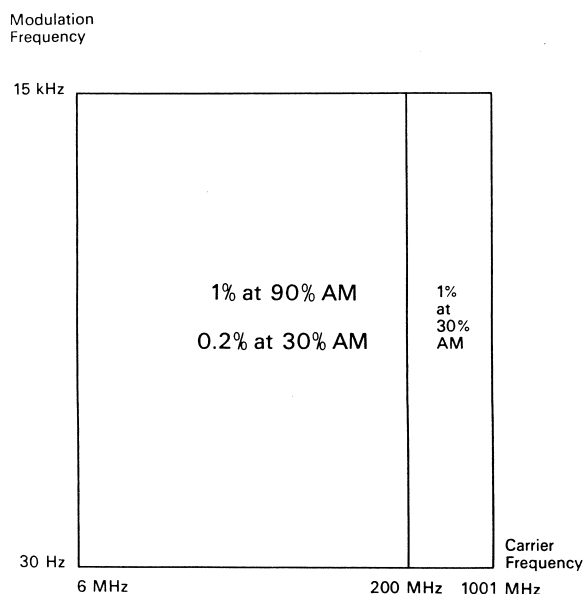

Fig. E2. Distortion for modulation percentage measurements.
14) Read the modulation percentage. Check whether the reading is the same for both peaks of modulation: a difference indicates distortion of the modulation envelope. See Fig. E2, and refer to SECTION B - SPECIFICATIONS under "AM MODULATION Distortion".